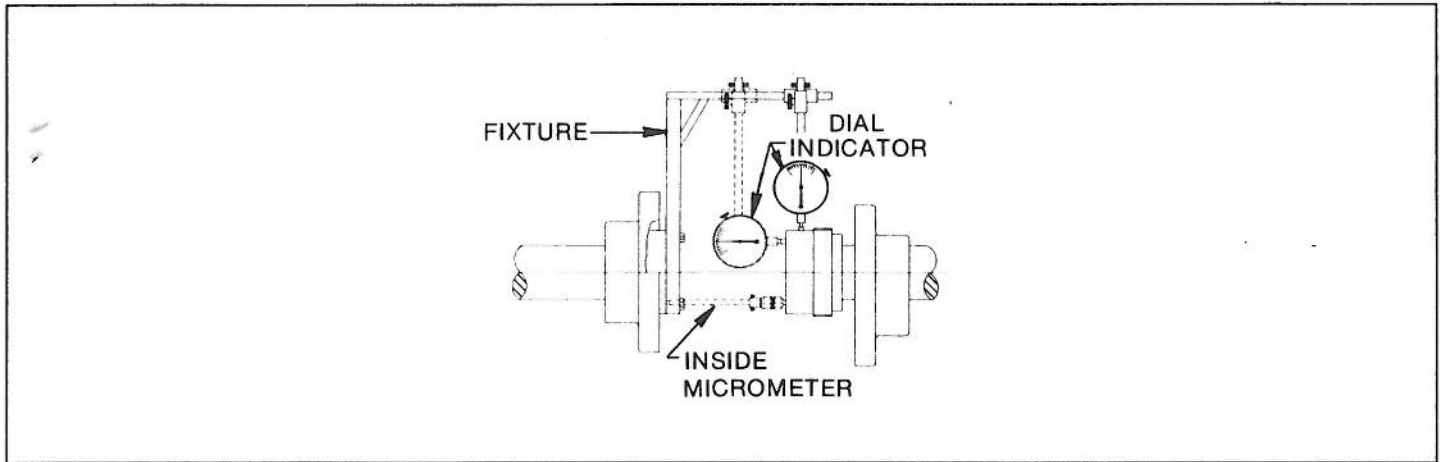

FIGURE 3. TESTING ALIGNMENT, DIAL INDICATOR
- (d) An alternate test for parallel and angular alignment may be made with a dial indicator mounted as shown in Figure 3. Proceed as follows:
- (1) Scribe the index lines on the coupling halves (as shown) or mark where the indicator point rests.
- (2) Set indicator dial to zero.
- (3) Slowly turn **BOTH** coupling halves so that index lines match, or indicator point is always on the mark.
- (4) Observe dial reading to determine whether pump or driver needs adjustment.
- (5) Acceptable parallel and angular alignment occurs when total indicator reading (complete